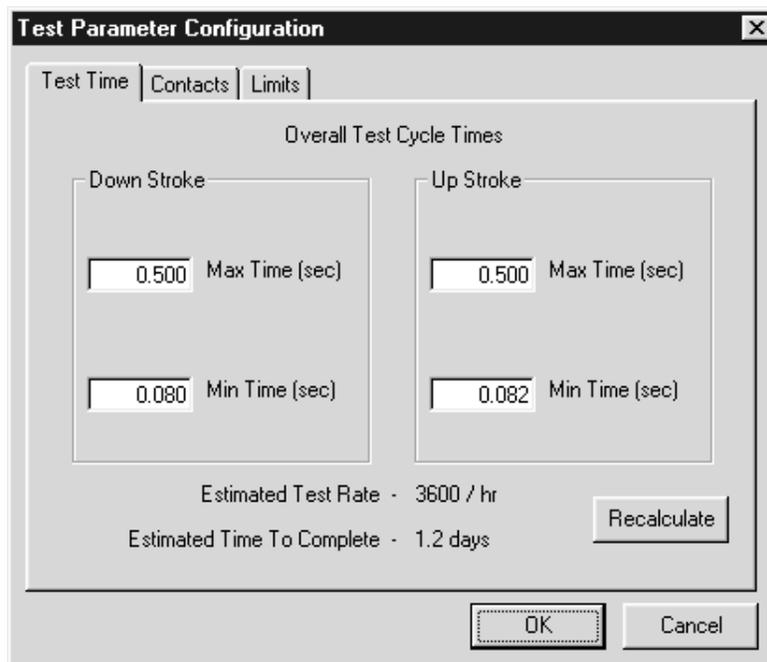

Figure 11.
To edit or review the configuration parameter, select the Edit menu item under the Configure menu. Note that no changes or review of the configuration parameters is possible while the LCTS is running tests. The LCTS must be stopped. A three tab configuration dialog box appears. Figure 11 shows the first tab of this dialog. Configuration parameters are not saved or transferred to the LCTS if the cancel button on this dialog is pressed. To make changes and have them transferred to the LCTS, press the OK button. If new configuration parameter are created or existing parameters modified, the user will be asked whether or not to save the data before the application is closed or a existing configuration file is opened.
Edit the current configuration parameters by opening the configuration dialog. See Editing The Configuration, above, for details. Select the Contacts tab at the top of the dialog. Set the Contact Type to the type of switch to be tested, Normally Open (NO) or Normally Closed (NC) (Figure 11). This will establish the state of the contact when the air cylinder is in the up (retracted) position.